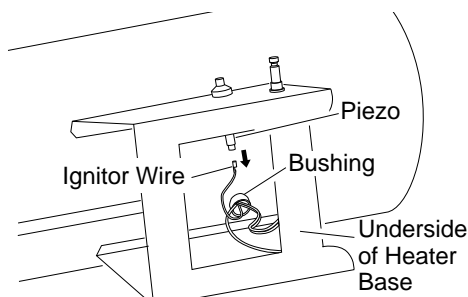

Figure 13 - Removing Ignitor Wire from Piezo Ignitor
A) Check ignitor wire. Tighten or reattach loose ignitor wire. See Figure 13, page 8 for ignitor wire location.
- Remove black ignitor wire from piezo ignitor. Access ignitor wire through underside of heater base (see Figure 13). Push wire up through bushing in heater shell.